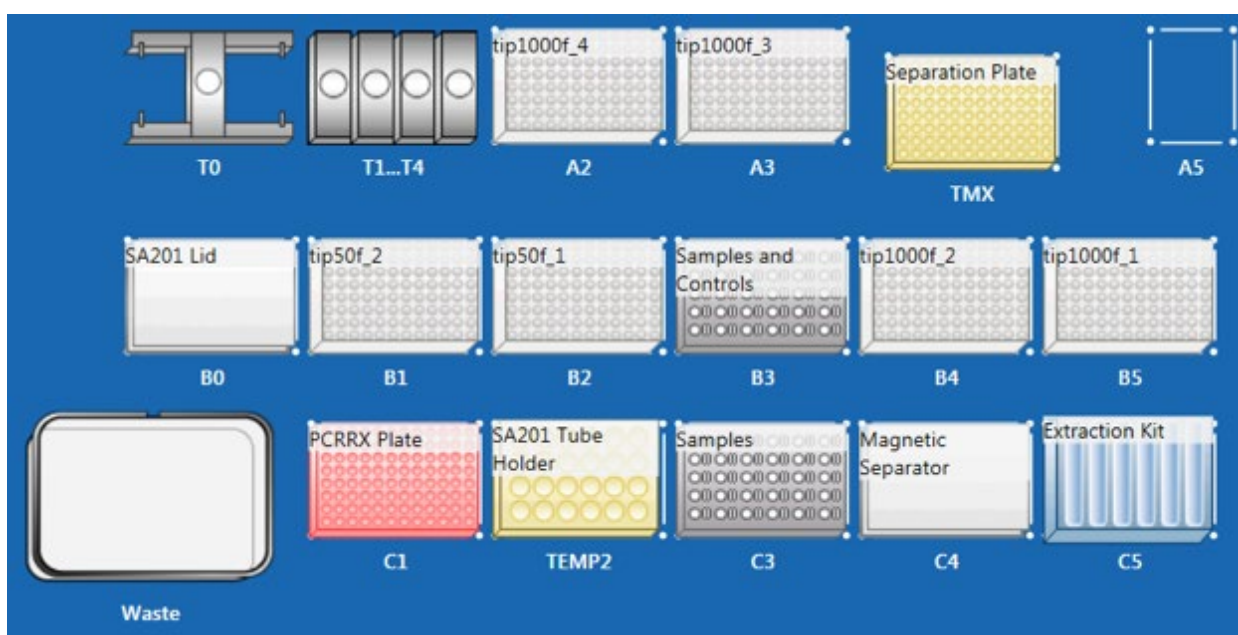

Figure 1. Layout of the *Sentosa* SX101 platform for 96 tests (for *Sentosa* SX101 only workflow)
Figure 1 shows the positions of consumables / labware on the *Sentosa* SX101 platform. Double line the *Sentosa* SX Waste Bin with biohazard bags. Please refer to the layout as indicated by the *Sentosa* SX101 instrument software or the appendix to load all items in the correct positions.
- 2.5. Place the correct *Sentosa* SX Reservoirs and Modules into positions 1 to 7 of the *Sentosa* SX Reservoir Rack 7 (refer to **Figure 1**, C5) according to the table below.
- 2.10. Set the MicroAmp Fast Optical 96-Well Reaction Plate with Barcode, 0.1 mL on the epMotion Thermoblock for PCR 96 Wells (Thermoblock PCR 96), and place the assembly on position C1 of the *Sentosa* SX101 platform (refer to **Figure 1**).
- 2.11. Load the *Sentosa* SX Non-Partition 1000 μ L Filter Tips, *Sentosa* SX Deepwell Plate 96/2000 μ L, *Sentosa* SX Non-Partition 50 μ L Filter Tips and *Sentosa* SX Magnetic Separator on the *Sentosa* SX101 platform. Please refer to the layout as indicated by the *Sentosa* SX101 instrument software (see **Figure 1**) or the appendix to load all items in the correct positions.
- 2.16. Load NC, PC and samples onto the *Sentosa SX Rack 0.5 + Adaptor / 1.5 / 2.0 mL* (refer to **Figure 1**, B3 and C3) as illustrated below.
After scanning, place the reaction plate back onto the *Sentosa* SX Thermoblock PCR 96 OC (refer to **Figure 1**, Location: C1). The reaction plate should be oriented with the barcode label facing towards the user.